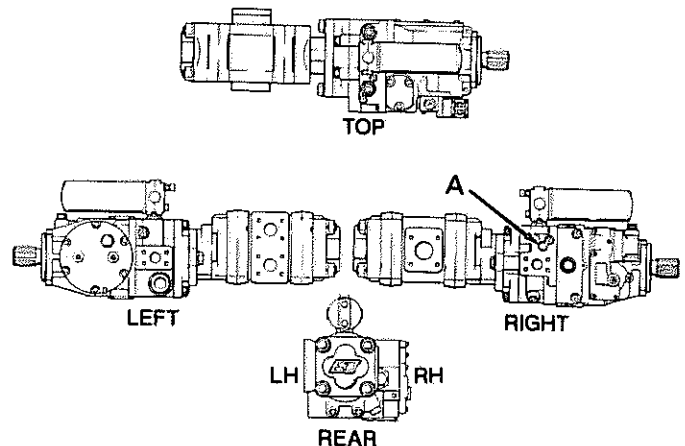

Fig. 52
3. Remove the ¼ inch JIC cap on gauge port (A), see Fig. 52.
4. Connect a 600 p.s.i. hand-held gauge onto port (A).